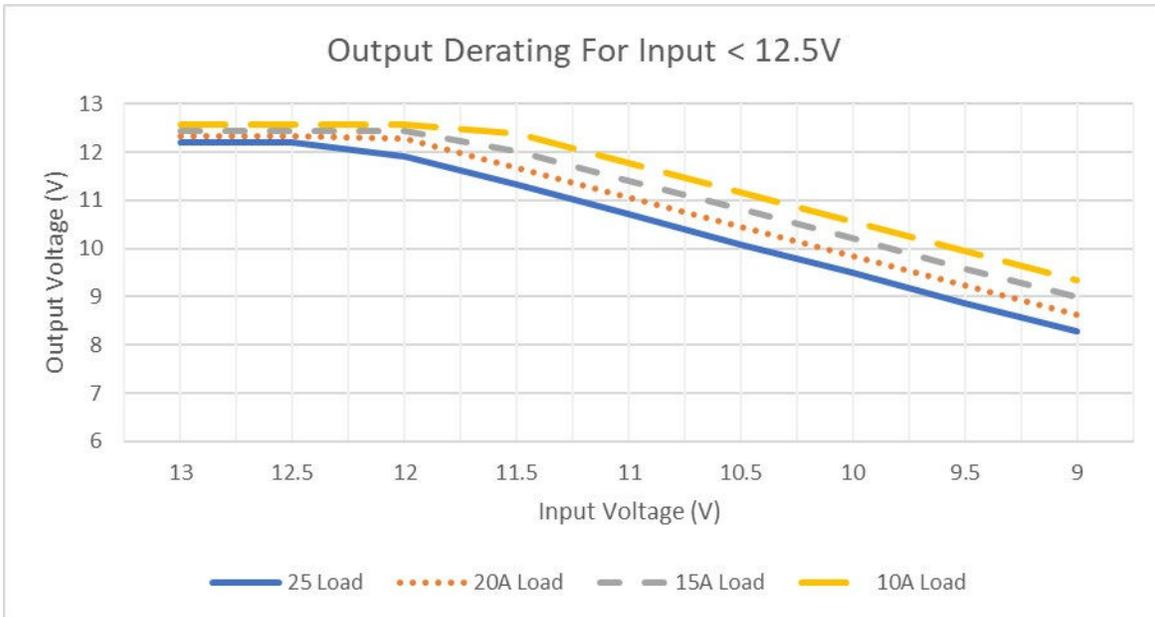

Figure 1.0 – Output Voltage vs. Input Voltage at Different Loads and Input less than 12.5V
- Operates from 10Vdc-36Vdc (Output derating for input less than 13V, see figure 1.0)